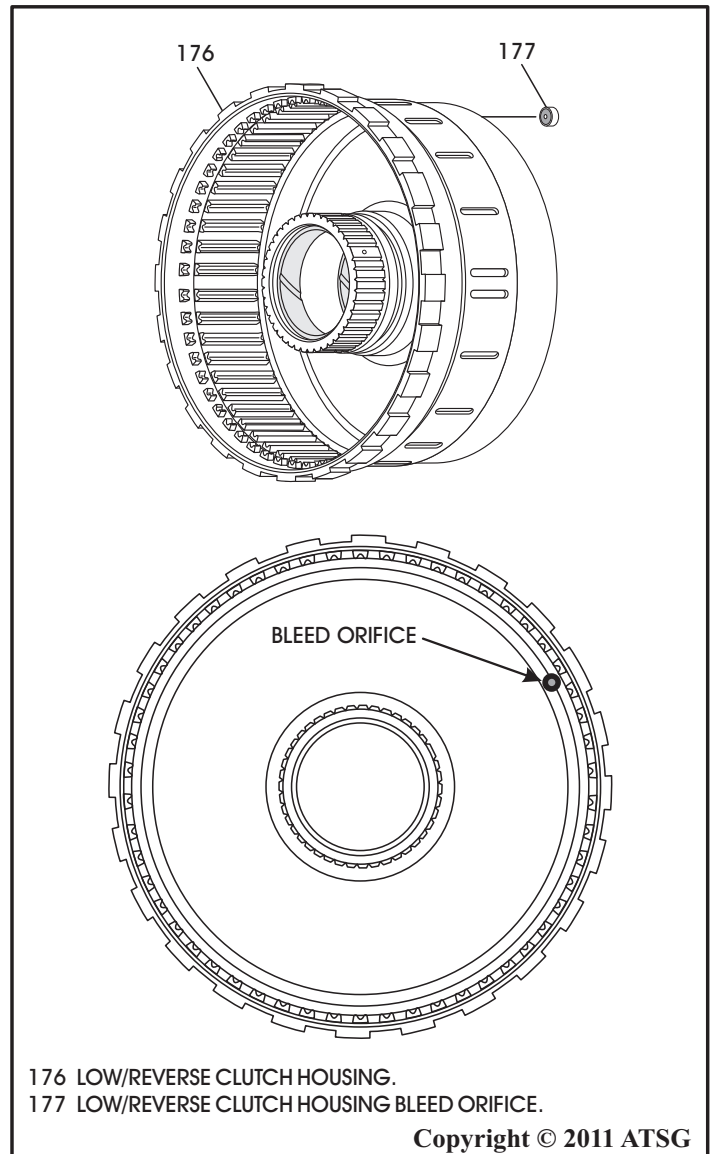

Figure 72
15. Check the bleed orifice in the bottom of the low/reverse clutch housing to ensure that it is still there, as shown in Figure 72, and that it is not plugged, restricted or blown out.